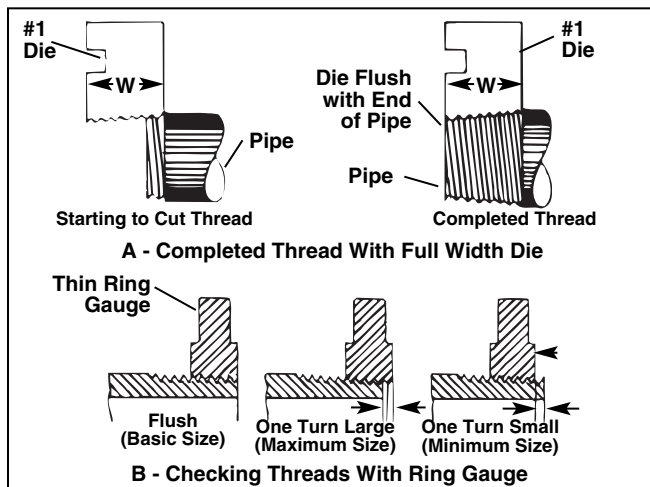

Figure 14 – Checking Thread Size
8. Watch for the end of the pipe to align with the back edge of the #1 die (*See Figure 14*). When this happens, open the die head throw out lever. Keep hands and clothes clear of pipe and moving parts. This retracts the dies and stops the threading process. Also watch to make sure the carriage does not hit the machine.
- Look at how far the pipe end extends through the ring gage. The end of the pipe should be flush with the side of the gauge plus or minus one turn. If thread does not gauge properly, cut off the thread, adjust the die head and cut another thread. Using a thread that does not gauge properly can cause leaks. *See Figure 14*.